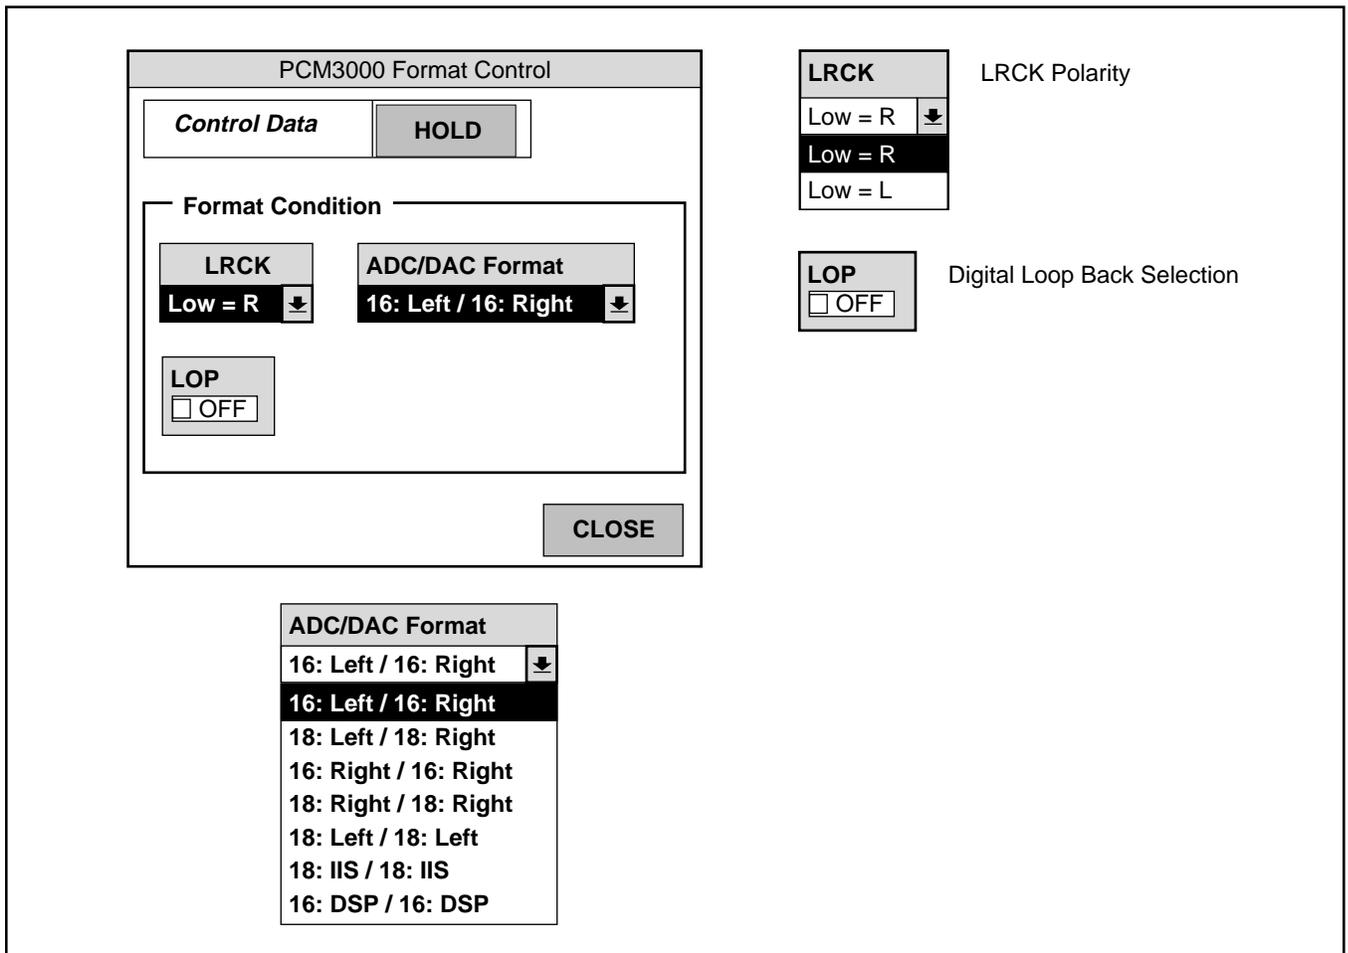

FIGURE 11. PCM3000 Format Control.
When DataForm (D) is selected, the Format Control screen appears (see Figure 11) and the following controls are possible: